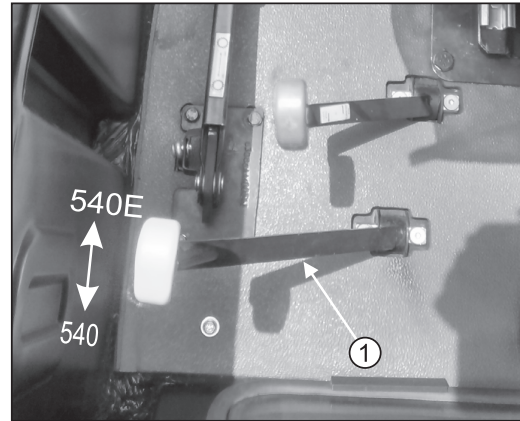

Fig. 4-12
PTO out put has two speeds i.e. 540 and 540E which can be selected through PTO speed selection lever (1) Refer & Fig. 4.12 and table for PTO speed selection i.e. 540/540E. Speed must be changed with PTO disengaged.
The Parking brake is engaged by the hand lever (1 - Fig.4.12) which acts on the brake discs by means of a mechanical control.